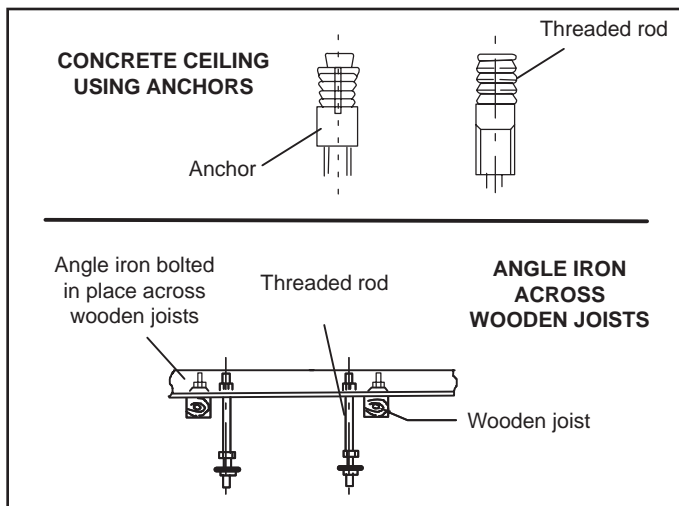

Figure 1. Locate Threaded Rods
- If the structural ceiling is constructed of concrete, install anchors to accept four  $\frac{3}{8}$ " threaded rods to suspend the indoor unit. If the structural ceiling includes wooden joists, use angle iron or Unistrut channel fixed securely in place to accept the  $\frac{3}{8}$ " threaded rods. See figure 1.